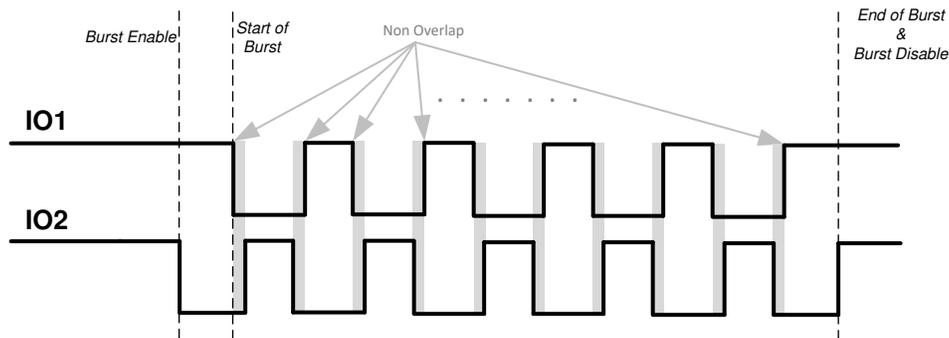

Figure 17. IO_MODE 2 Description
- IO_MODE = 2:** In this mode both IO1 and IO2 are used to control OUTA and OUTB. The burst enable is triggered when either IO1 or IO2 transitions from high to low. Start of burst (OUTA and OUTB changing state) happens only at the next falling edge of IO1. Figure 17 shows the case where a high-to-low transition on IO2 is used to enable the burst. A burst is emulated when IO1 and IO2 are toggled in a non-overlapping sequence. After the start of burst, the state of OUTA and OUTB pins are determined by IO1 and IO2 pins as shown in Table 21. During a burst, if there is a condition where both IO1 and IO2 are high for more than half period of the internal clock f_{INT_CLK} (caused by differential delays due to PCB parasitics or MCU code), an end of burst and burst mode disable will be triggered. Any falling edge just after this condition will be ignored to toggle OUTA and OUTB as it would be considered as a new burst enable signal. A systematic condition of overlap can cause a continuous end of burst trigger such that OUTA and OUTB do not toggle even though IO1 and IO2 are toggling. TI recommends no overlap or minimum non-overlap between the IO1 and IO2 signals when measured at the pins. BURST_PULSE has no effect in this mode.